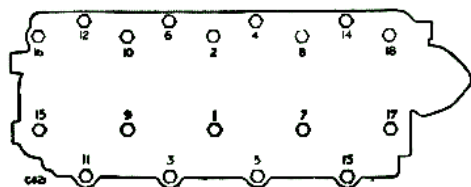

Fig. A-431—Order of tightening cylinder head bolts.
3. Pull down the cylinder head bolts evenly to the correct tension in the order shown in Fig. A-431.